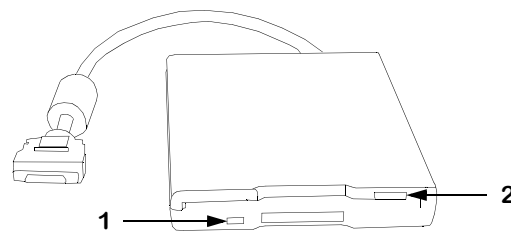

Figure 11 Floppy Disk Drive Controls and Indicators
-Figure 11	Floppy Disk Drive
3.5 Floppy Disk Drive. Refer to **Figure 11** and **Table 4** for explanation of controls and indicators for the Floppy Disk drive.